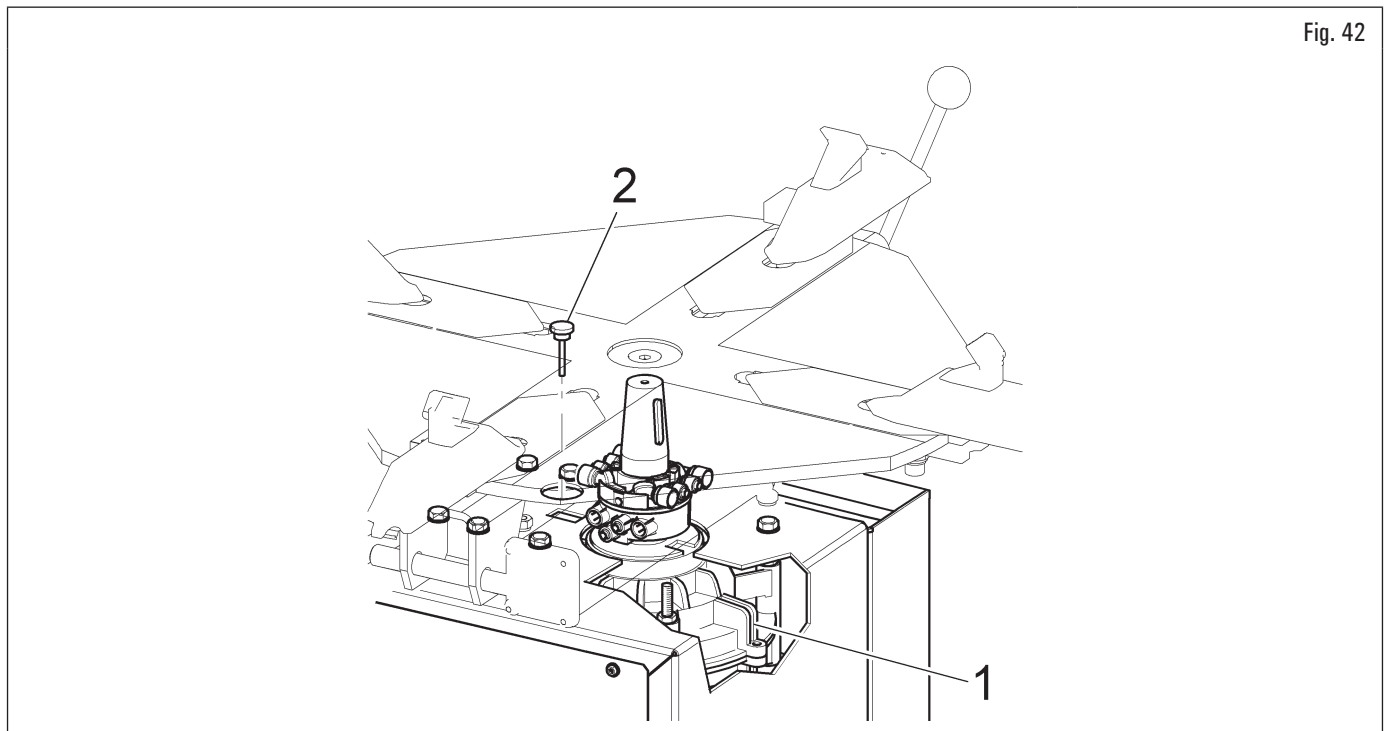

Fig. 42
- Periodically (at least each 100 working hours) check the lubricant level into the reduction gear (Fig. 42 ref. 1) removing the plug (Fig. 42 ref. 2) through the spy hole on the frame.